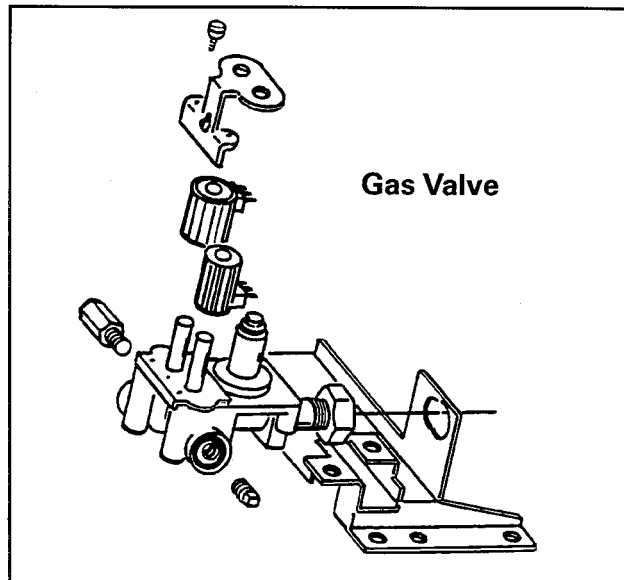

Figure 2-1
3. Install a 5/16" tapered fitting at the gas valve pressure tap. Use thread seal tape or compound on fitting. *(See Figure 2-1)*